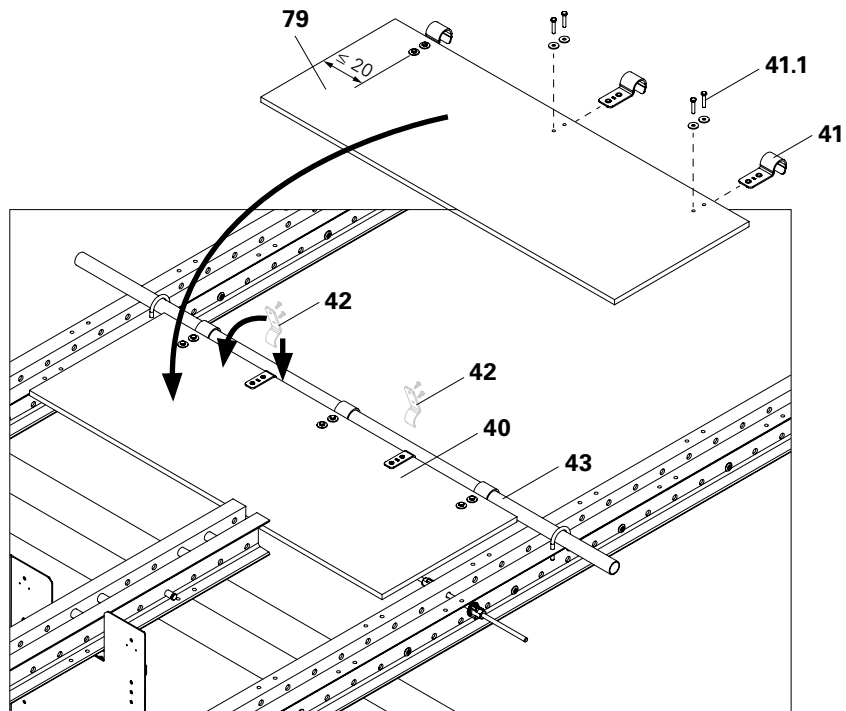

Fig. C1.17
5. Suspend the Foldable Cover (40) on the scaffold tube (43) and place on tie rod (97).
6. For each Foldable Cover, mount one Flap Safety Plate (42) approximately in the centre using 2 SPAX Screws TX 30 8x20. Foldable Cover is now secured. (Fig. C1.17)